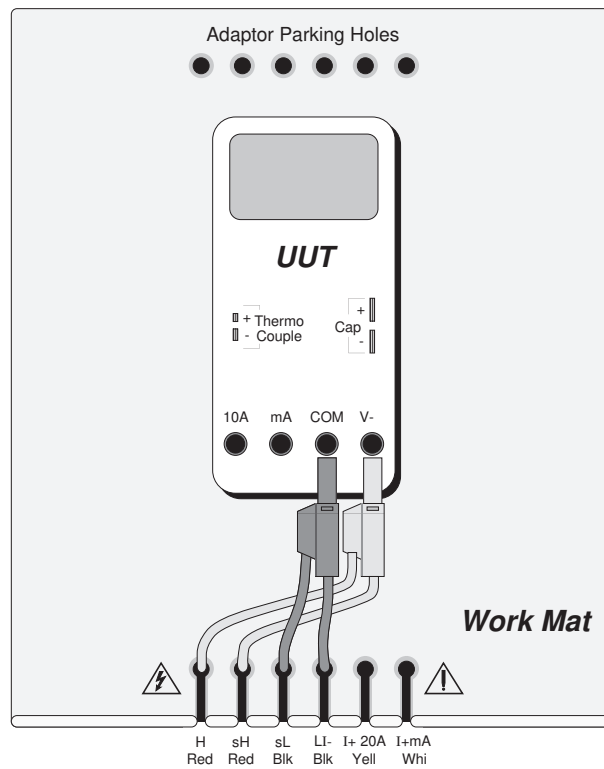

Fig. 16.1 Connections for Logic Pulses Calibration
1. Connections Connect the 9100 to the UUT as shown in Fig. 16.1, and ensure that both instruments are powered ON and warmed up.
16.2.2 Sequence of Operations Refer to the table of UUT calibration points in the Manufacturer's Calibration Guide for the UUT. Follow the sequence of calibration stages as directed by the guide, and carry out the following operations (1) to (5) at each stage.
16.3.1 9100 and UUT Setup 1. Connections Connect the 9100 to the UUT as shown in Fig. 16.1 , and ensure that both instruments are powered ON and warmed up. 2. UUT Select Logic Pulses function. 3. 9100 Ensure that the 9100 is in Logic Pulses Function with Output OFF. If in any other function, press the 'Aux' key on the right of the front panel, then the LOGIC screen key on the bottom row.	4.16-2